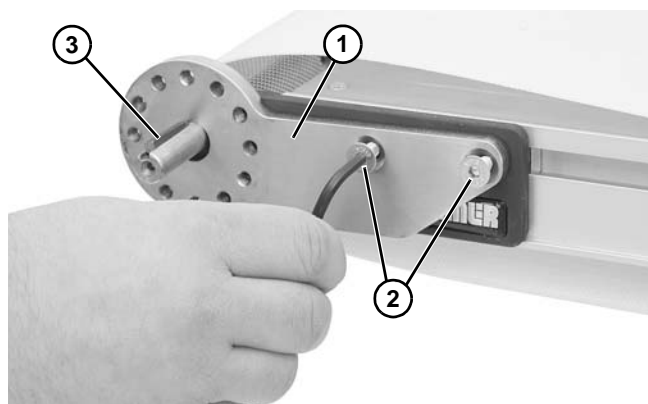

Figure 4
4. Attach mounting plate (**Figure 4, item 1**) with screws (**Figure 4, item 2**) provided on the universal drive package.
5. Install key (**Figure 4, item 3**).